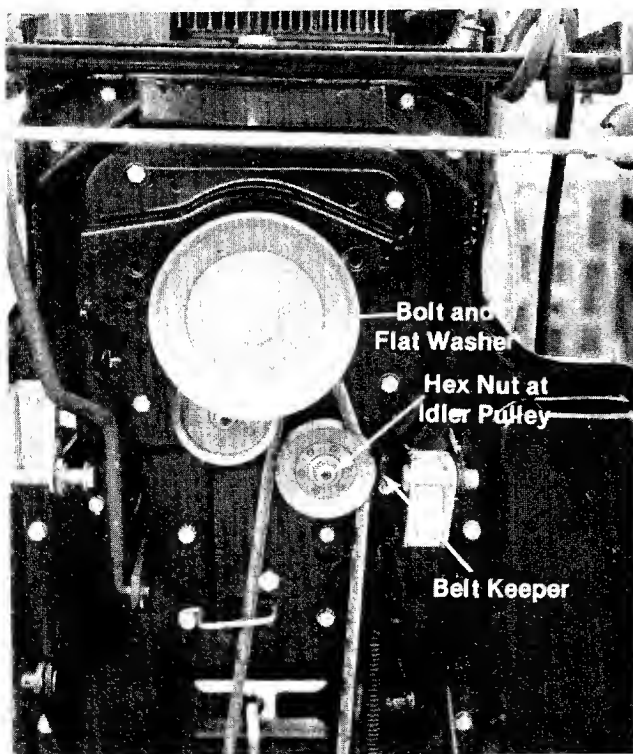

FIGURE 29.
9. Remove the engine pulley bolt and flat washer and remove the hex nut at idler pulley. (See figure 29.)
10. Remove the belt keeper on flat idler. (See figure 29.)